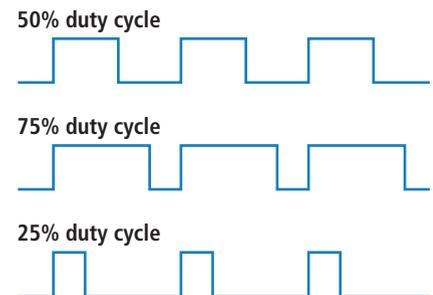

FIG. 5. In pulse-width modulation, the pulse level and frequency remain constant, but the duty cycle is varied.
The measured quantity is more accurately termed physiological radiance as opposed to true radiance, which by definition samples only the emitting area of the source (Fig. 5). Where the physiological radiance is measured in a FOV greater than the angle subtended by the source, the resultant radiance is an average of the true source radiance and the dark background. Furthermore, since the angular subtense of a source varies with distance, physiological radiance, unlike true radiance, is a function of measurement distance.
**FIG. 5.** In each pair of images, the red circles show the measurement fields of view for true (left) and physiological (right) radiance. For true radiance measurements, the circle encompasses only the light-emitting area, while the physiological radiance is an average of the true source radiance and the dark background.
In this technique, the current through the LED is pulsed at a constant frequency with a constant pulse level, but the width of the pulse is varied (Fig. 5), which changes the amount of time the LED is in the ON state, as well as the perceived level of brightness. The LED is actually flashing but at such a high frequency that the human eye can't distinguish it from a constant light level.